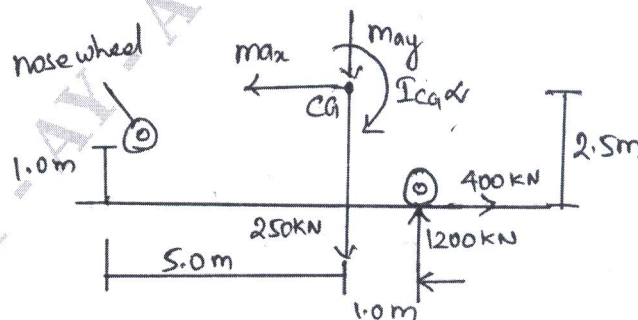

Fig. Q5(c)
c. An aircraft having a weight of 250kN and a tricycle under carriage lands at a vertical velocity of 3.7m/s, such that the vertical and horizontal reactions on the main wheels are 1200kN and 400kN, respectively : at this instant, the nose wheel is 1.0m form the ground, as shown in the Fig.Q5(c). If the moment of inertia of the aircraft about its CG is $5.65 \times 10^8 \text{ NS}^2\text{mm}$, determine the inertia forces of the aircraft, the time taken for its vertical velocity to become zero and its angular velocity at his instant. (10 Marks)